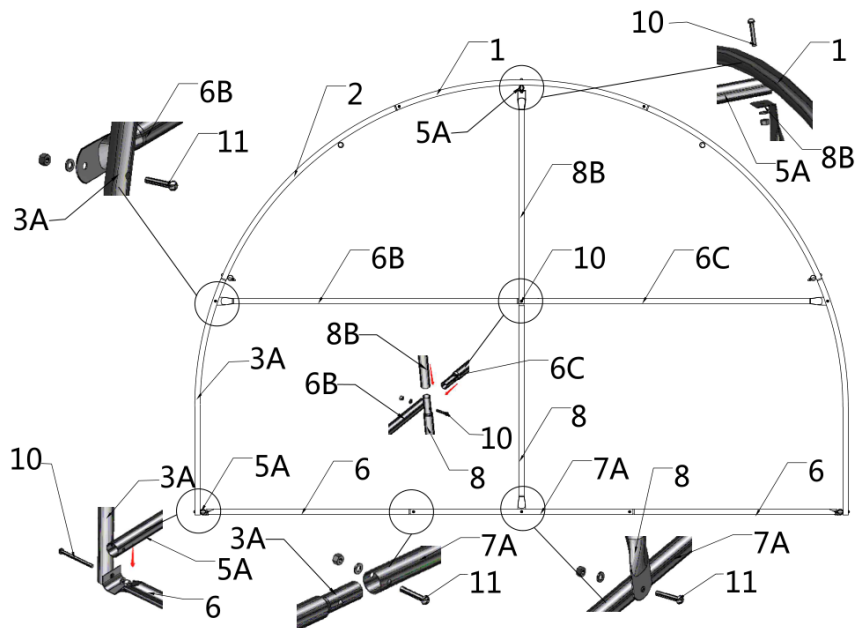

Figure 9
Step 8 : Install the remaining parts on the rear truss (figure 9)
- (2) Bottom tension bar (#6)